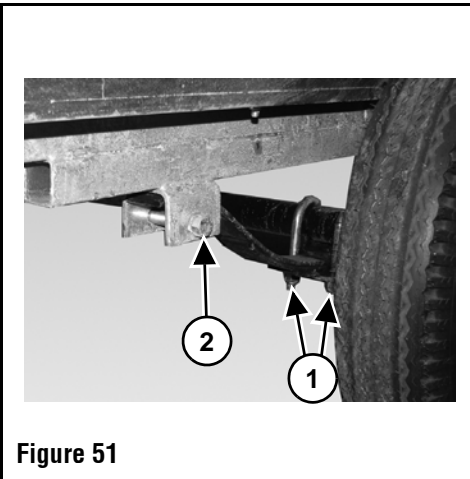

Figure 51
5. Check all leaf spring U-bolts (Item 1) and leaf spring mounting bolts (Item 2) for being loose or missing. (both sides) (Figure 51)